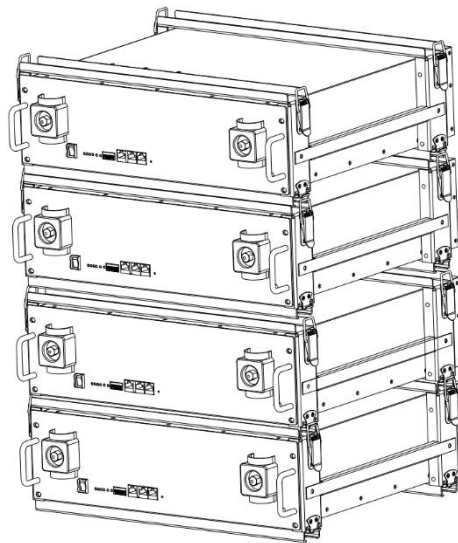

Figure 3-7
4. Stack the required number of battery and bracket combinations as described above, and fasten the upper and lower buckles. Shown as Figure 3-7.